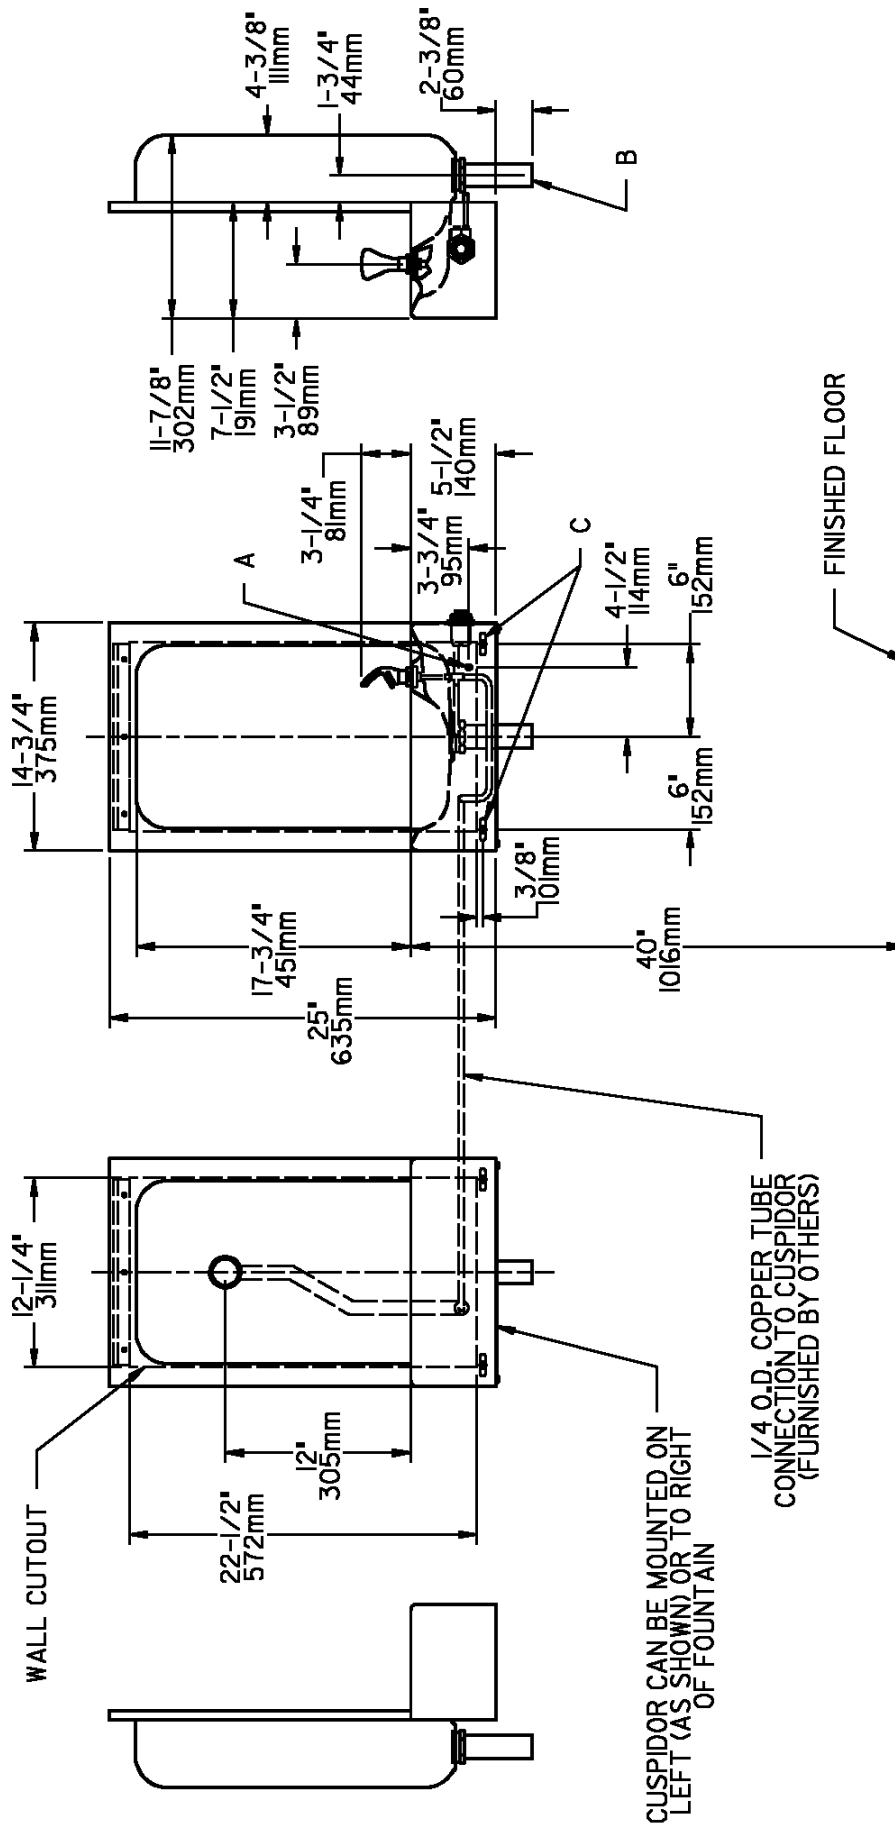

FIG. 1
2. Prepare waste connection(s) and water supply hookup connection. Refer to roughin drawing for location details (See Fig. 1).
**NOTE: WASTELINE TRAP(S) AND SERVICE SUPPLY STOPS ARE NOT INCLUDED.**